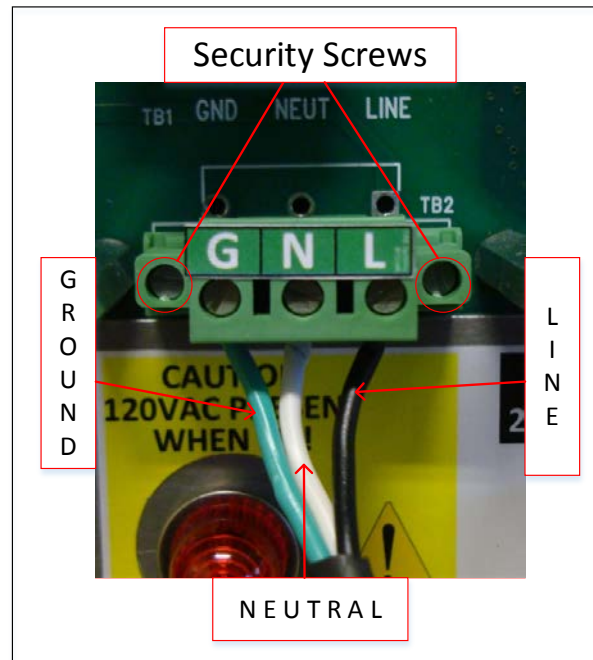

Figure 30. Line - Neutral - Ground Connections
3. Remove the 3-pin Phoenix block from the power module by loosening the two security screws on the sides of the connector. Secure the Line (black), Neutral (white) and Ground (green) wires to the appropriate terminal screws. (See Figure 30.)